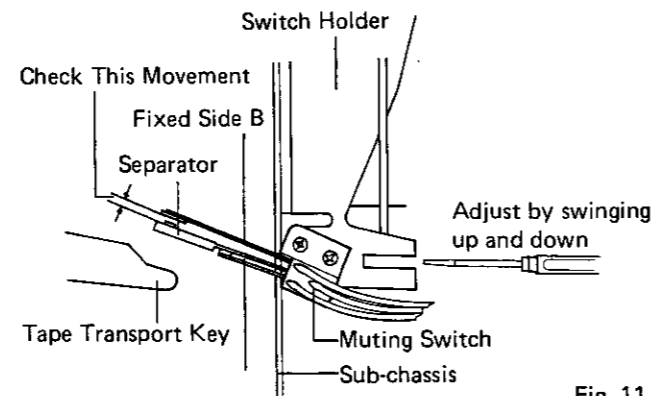

Fig. 11
2. When the PLAY lever is depressed, the action will also depress the muting switch separator. As a result, the separator should have moved the fixed side B by 1 ± 0.5 mm (See Fig. 11).